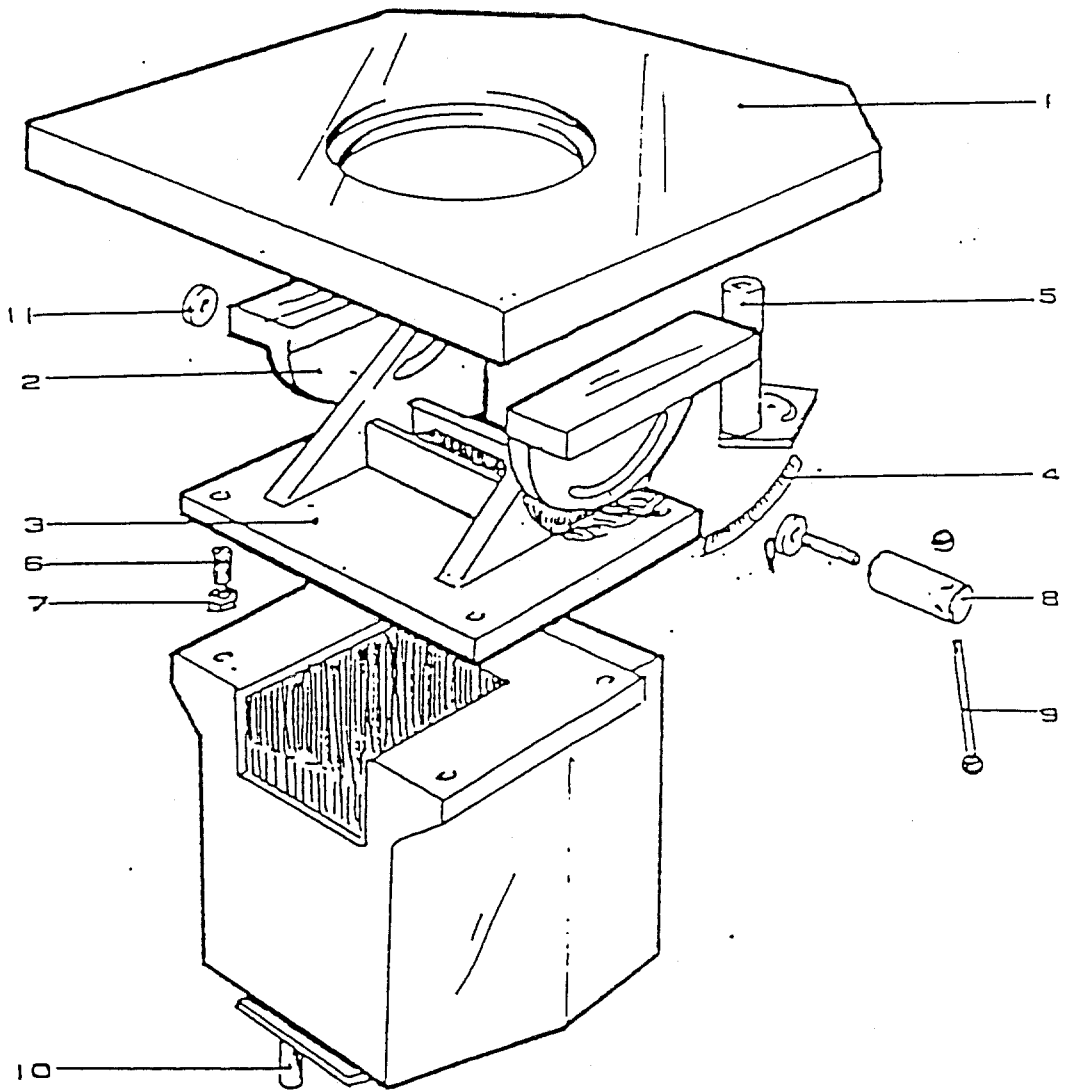

FIG. 26 CANTING TABLE MACHINE UX/2
8.8 CANTING TABLE PARTS LIST MACHINE UX/2 (See Figure 26)